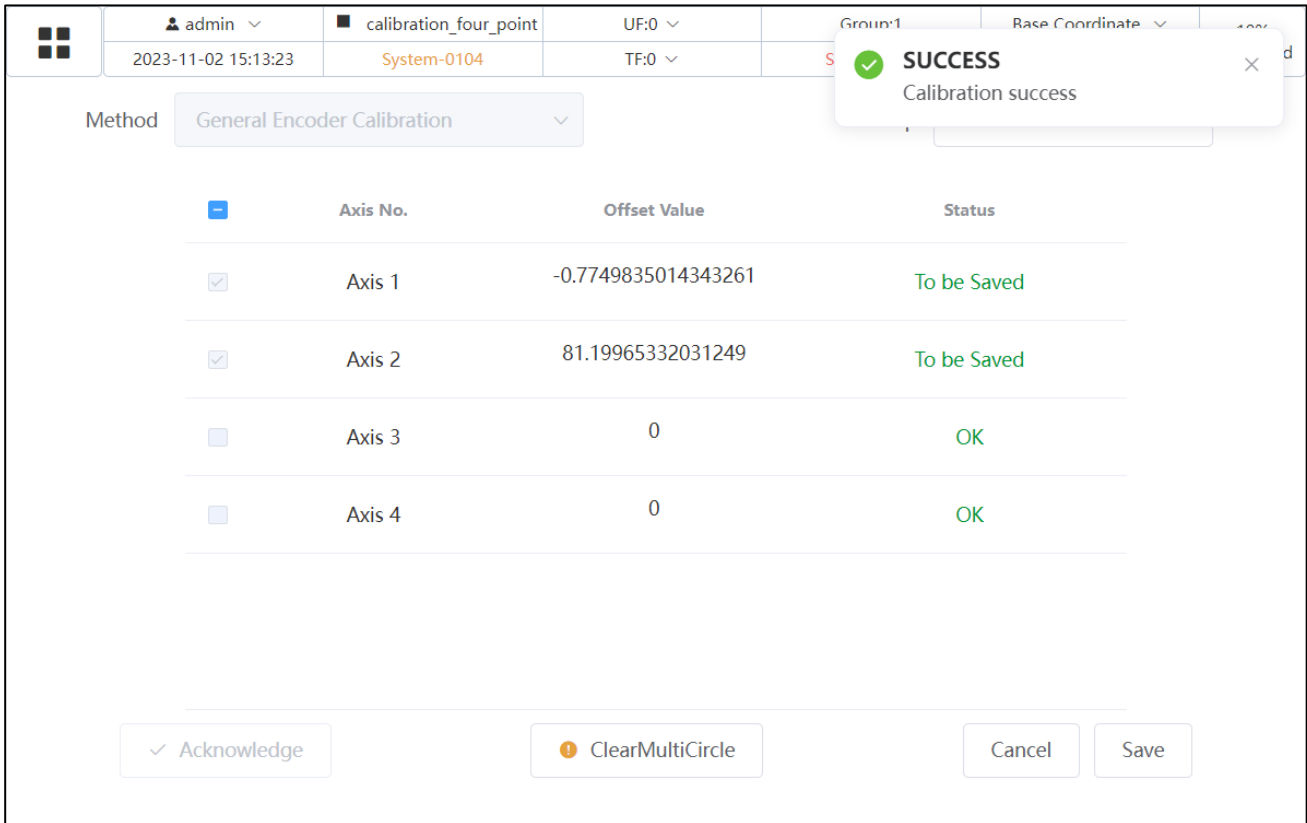

Fig. 2.45 Status Changes to "Unsave"
- After selecting the axis to be calibrated, click the "Calibration Button". If the "Calibration success" message pops up, the zero-point status of the calibrated axis may change to "Unsave". shown in Fig. 2.45.